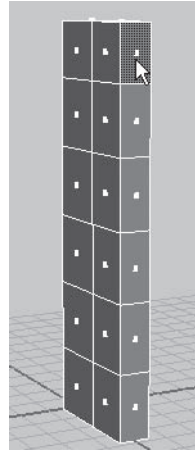

FIGURE 3.61 Top face of the sack's side selected.
30. In Side view, select the top face of the sack's side, as shown in Figure 3.61.